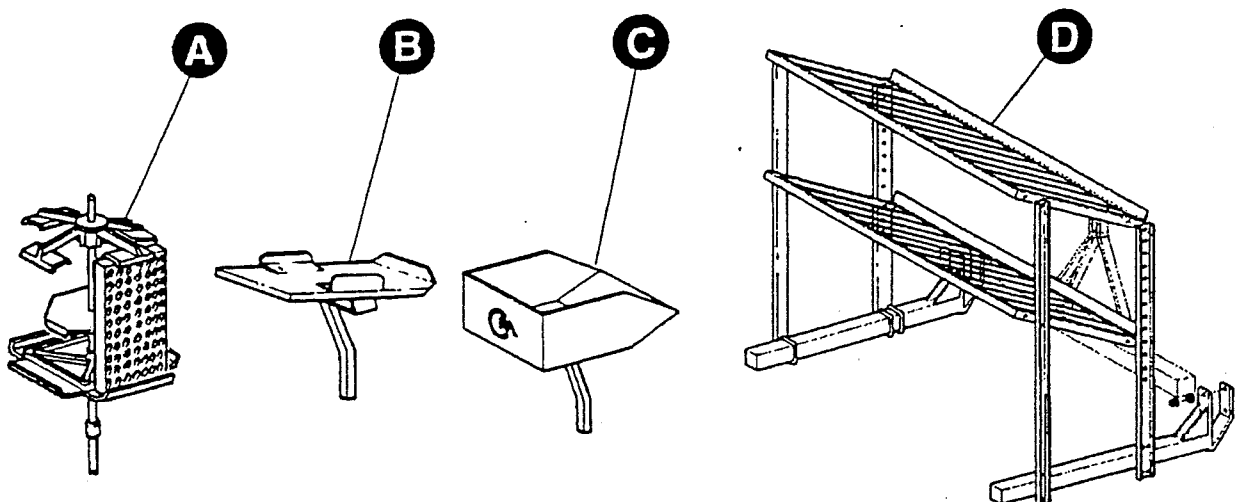

FIG. 8
One rotating tray holder for each row (fig. 8.A) is normally provided.
- inclined box holder (fig. 8.B)
- plant holder for plants with rootball (fig. 8.C)
- transverse tray holder (fig. 8.D).
A two-level transverse tray holder (fig. 8.D) is normally provided.